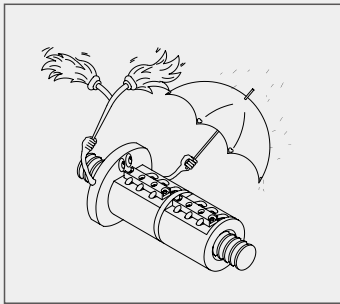

Fig 4.1 Carefully clean and protect
(1) A ballscrew must be thoroughly cleaned in white spirit and oil to protect against corrosion. Trichloroethylene is an acceptable degreasing agent, ensuring the ball track free from dirt and damage (paraffin is not satisfactory). Great care must be taken to ensure that the ball track is not struck by a sharp edged component or tool, and metallic debris does not enter the ball nut (Fig. 4.1).
(2) Select a suitable grade ballscrew for the application (ref. Table 4.5). Install with corresponding mounting disciplines. That is, precision ground ballscrews for CNC machine tools demand accurate alignment and precision bearing arrangement, where the rolled ballscrews for less precision applications, such as packaging machinery, require less precise support bearing arrangement.